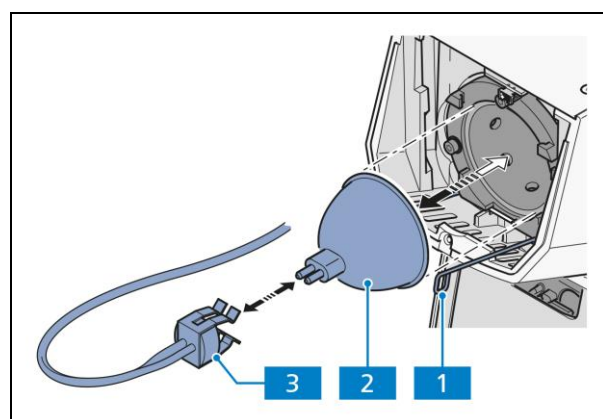

Fig. 3-21 Changing the halogen lamp
- Remove the lamp plug (Fig. 3-21/3) from the halogen lamp (Fig. 3-21/2).
- Press the loops on the securing clips (Fig. 3-21/1) of the lamp holder together and swing them out to the front.
- When changing the lamp, remove the old one (Fig. 3-21/2).
- Press the securing clips (Fig. 3-21/1) on both sides of the lamp holder and swing them upwards until the securing clips are seated against the halogen lamp. Slowly release the securing clips so that they open and engage in the retaining elements to the right and left.
- Check that the halogen lamp is correctly seated and push the lamp plug (Fig. 3-21/3) onto the pins of the lamp. Ensure that it engages properly to avoid bending the pins.